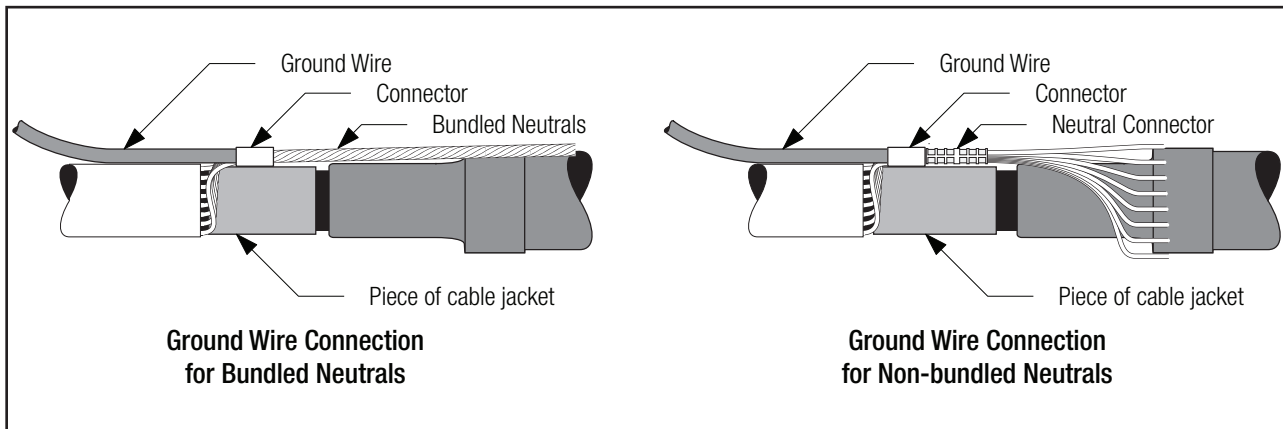

Figure 42
- 11.1 Connect a ground wire to the neutrals, in the area where the splice diameter is reduced. To protect the cable semicon, place a piece of cable jacket (removed during the cable preparation) under the ground connector. Ensure that the cable jacket piece does not touch the splice body. Keep connector profile as low as possible. For C-Tap or H-Tap connectors, position flat against the cable (*Figure 42*).